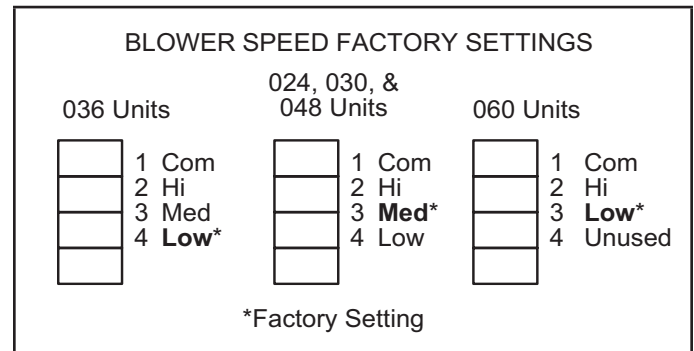

FIGURE 16
- 3 - Use FIGURE 16 to determine the factory set blower speed.